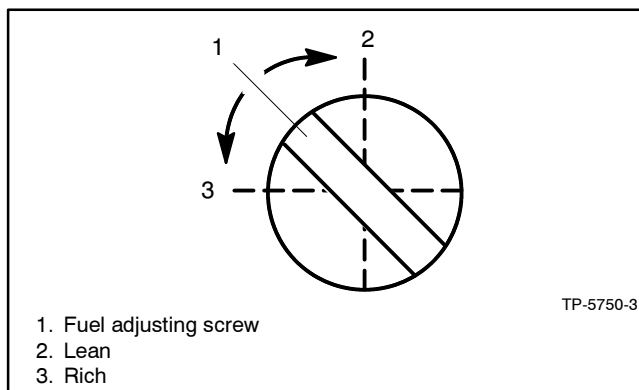

Figure 3-11 Fuel Mixture Adjustment, Typical
2. Adjust the engine fuel mixture screw (Figure 3-11) until the engine runs smoothly.